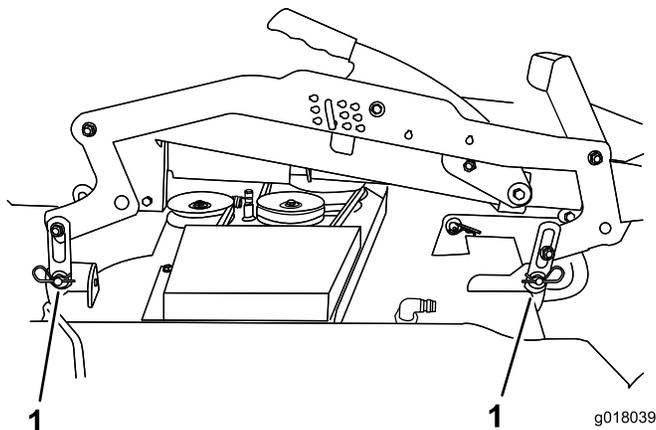

Figure 1
- Remove the 4 hairpin cotters and washers from the deck hanger lift links and remove the links from the mower deck (Figure 1).